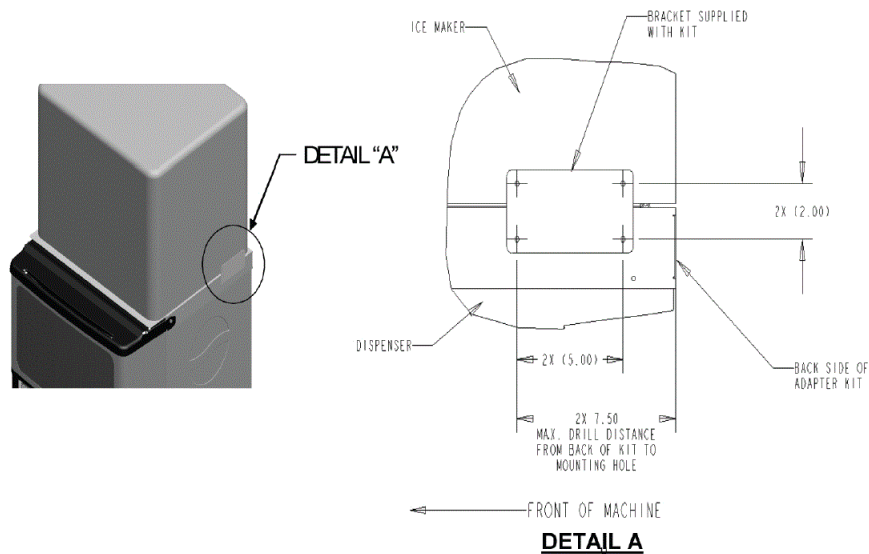

Figure 3.
7. The next step is to secure the icemaker to the kit. Use the brackets (supplied) as templates to drill four 9/64" (.140"Dia.) holes into the adapter kit (2 per side). When drilling holes, the maximum distance from the back of the kit is 7.50 inches (refer to Figure 3.) Failure to comply will result in damage to the sliding arm mechanisms internal to the kit. Drill four holes of the same diameter into the icemaker (2 per side). Ensure the location of the brackets will not damage the kit or the icemaker prior to drilling any holes. **USE EXTREME CAUTION NOT TO DRILL INTO ANY OTHER COMPONENTS.** Drill depths should not go further than the thickness of the material being drilled (just enough to go through). Secure the two brackets using the screws provided.